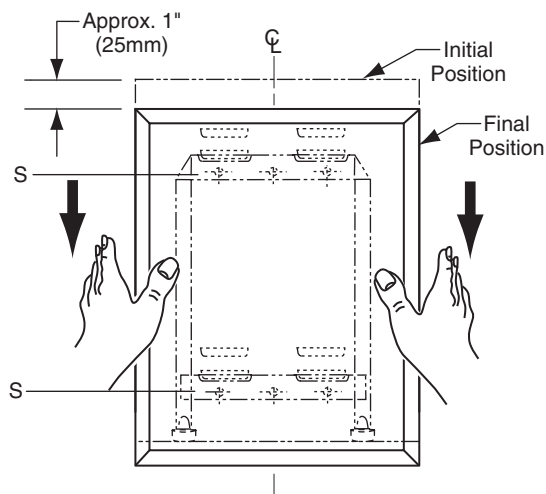

Figure: 3
**Snap Locking Design** — Locking devices automatically secure mirror to concealed wall hanger when it is lowered into final position (see figure 3). Locking devices may be unlocked by inserting two flat blade screwdrivers behind each side of mirror near the bottom or under the bottom of the mirror and pulling mirror bottom forward and then up.